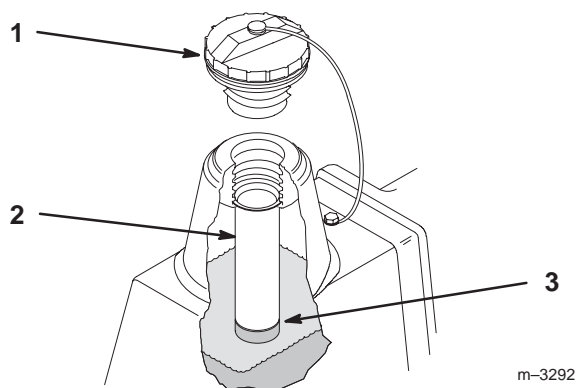

Figure 26
2. Clean area around filler neck of hydraulic tank (Fig. 26).
3. Remove cap from filler neck and look inside to check fluid level. Fluid level should be above the bottom of the screen (Fig. 26).
4. If level is low, add fluid to raise level to above the bottom of the screen (Fig. 26).